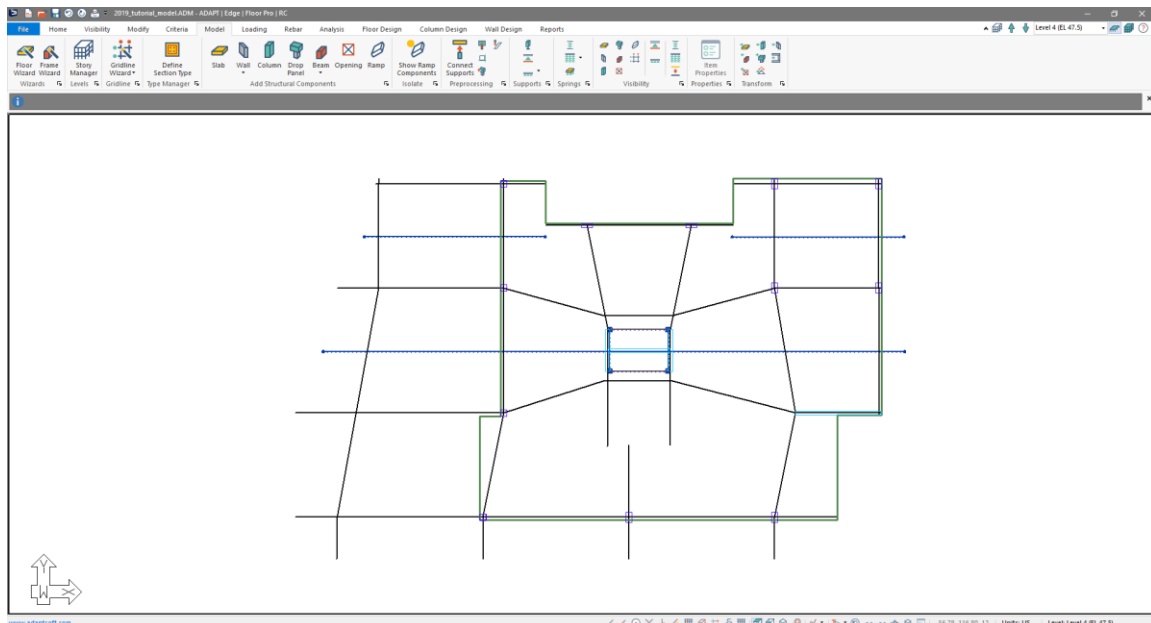

Figure 10-4
- Click on the drop-down box labeled *To* and select *Up*. This will change the *Copy/Move Vertical* window to be as shown in **FIGURE 10-4**.